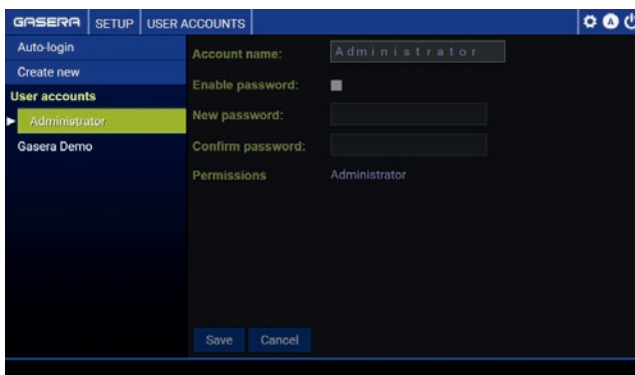

Figure 48. User account view displaying Administrator user account settings.
**User accounts** allow the user to create and modify users and their rights. All accounts currently available in the instrument are displayed on the left side of the view, and their configuration can be previewed by highlighting a specific user account name as presented in the Administrator example in Figure 48.